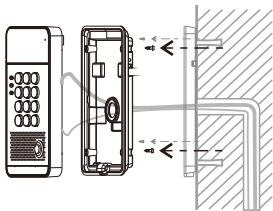

Figure 9
A. Use the 4 screws to tighten the main part of intercom on the back panel as shown in Figure 9.